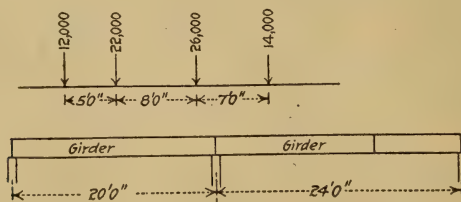

FIG. 3.
1. A column supports two crane girders 20 ft. and 24 ft. long respectively (Fig. 3). The rolling loads on these girders are as follows and always have the same relative order with respect to the spans. Find the maximum load on the column and the maximum shear at the end and centre of the 24-ft. span.